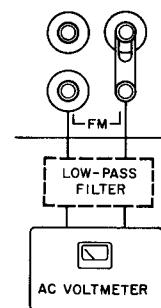

Figure 3. Connection Diagram for FM Deviation Measurement.
- d. Connect the ground link between the DIRECT RECORD terminals as shown in Figure 3.
- e. Connect an ac voltmeter between the FM terminals, as shown in Figure 3. A low-pass filter is usually required to filter out the carrier while passing the modulating frequency (refer to paragraph 3.6). If the ac voltmeter used is a wave analyzer, it will be possible to determine the individual components of the modulation.